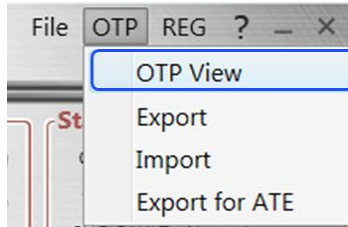

Figure 8: Select OTP
2. Select “OTP View” in the toolbar (see Figure 8).